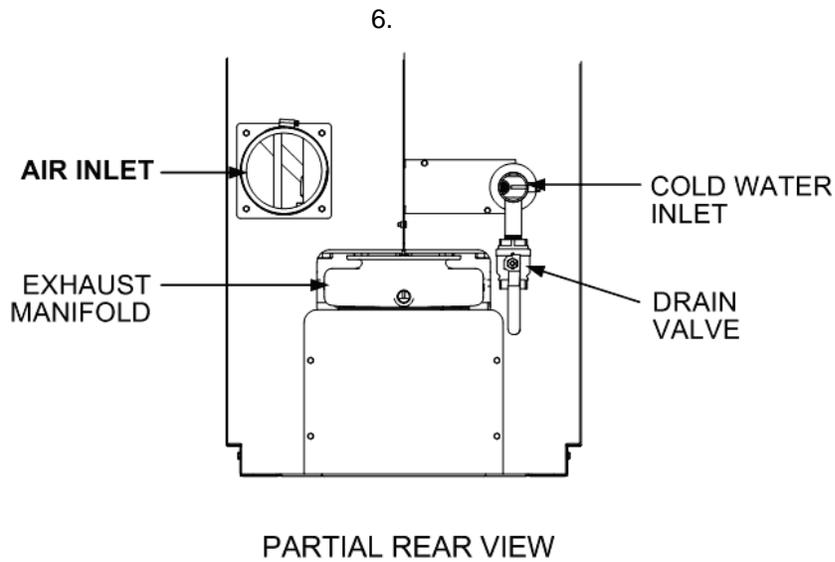

Figure 5-5. Water Heater Rear View Showing Air Inlet Location
12. At the rear of the unit, partially block the air inlet (Figure 5-5) with a plywood sheet or metal plate.
3. Remove the Air/Fuel Valve cover (Figure 5-5) by rotating the cover counterclockwise to unlock and lift up to remove.